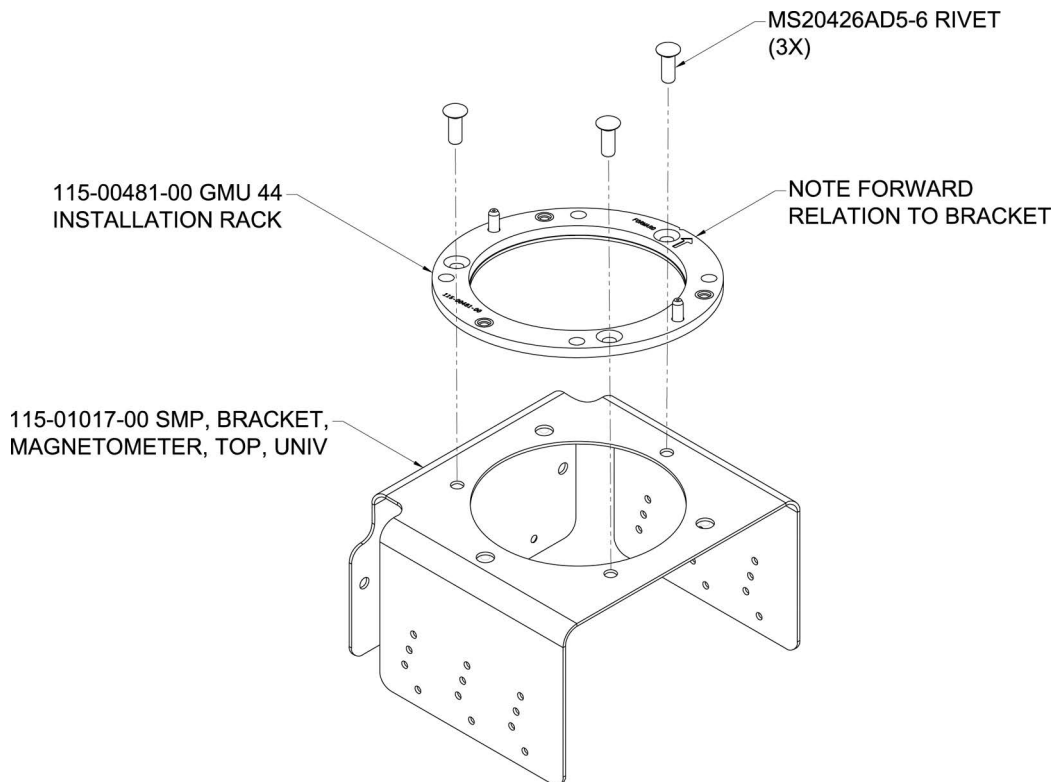

Figure B-9 GMU 22 Installation Rack (ES/ES-P)
5. Rivet the GMU 22 Installation Rack (115-00481-X0) to the Top Bracket Assembly (115-01017-00) as shown in Figure B-9.